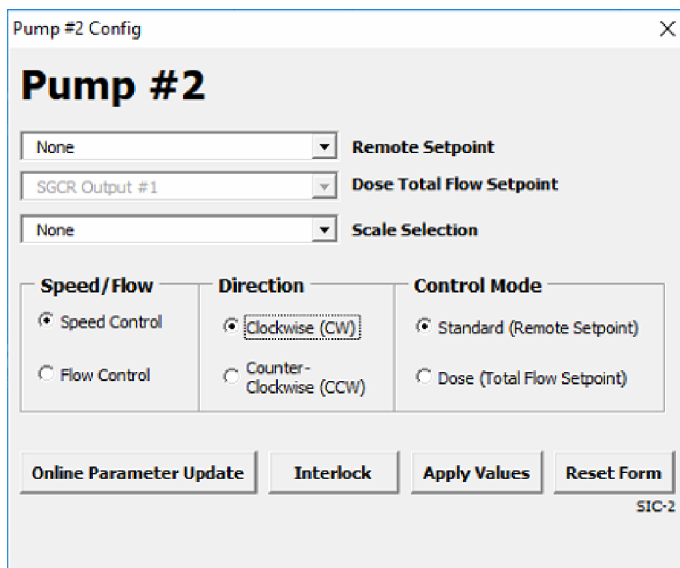

Figure 3.37. Pump Configuration form.
- Verify that the correct vessel number is displayed and open the **Configuration** screen. Then click the pump to open the **Pump Configuration** window (Figure 3.37).